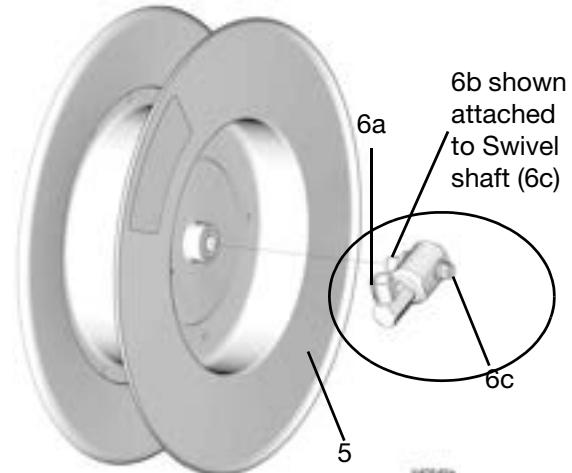

FIG. 19
5. Completely remove the hose from the swivel assembly (6 - contains 6a, 6b, and 6c) and set it aside for re-installation on the new spool (FIG. 19).
6. Loosen and unscrew the swivel shaft (6c) to remove the swivel assembly (6) from the spool (5) (FIG. 19).